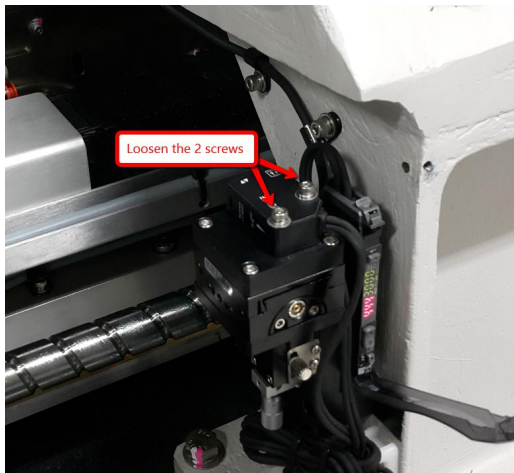
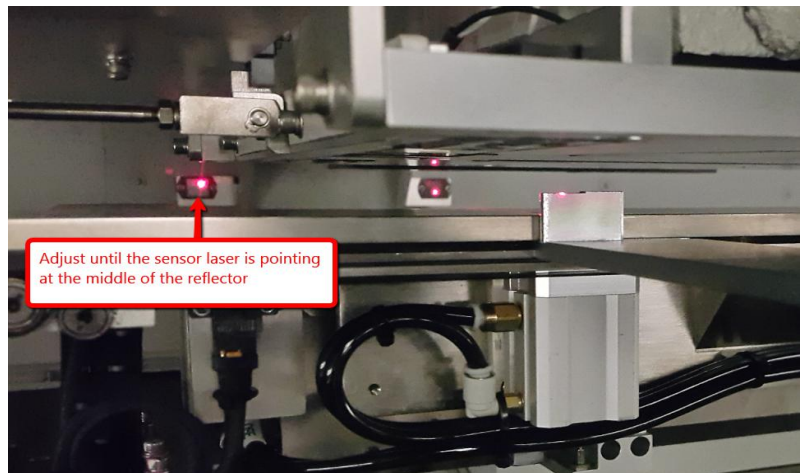

Figure 8 Sensor Head
Figure 9 Laser Pointing Direction
9. Loosen 2 x screws at Sensor Head as Figure 8. Adjust Sensor Head until laser spot is pointing at middle of the reflector as Figure 9.